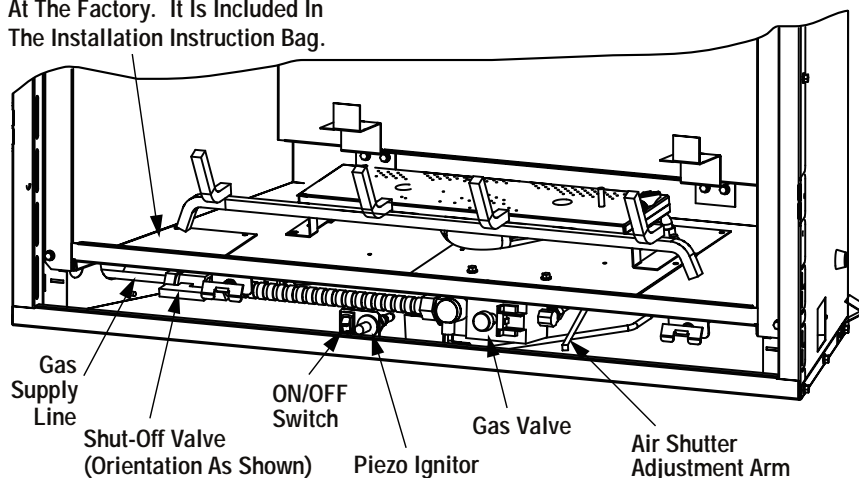
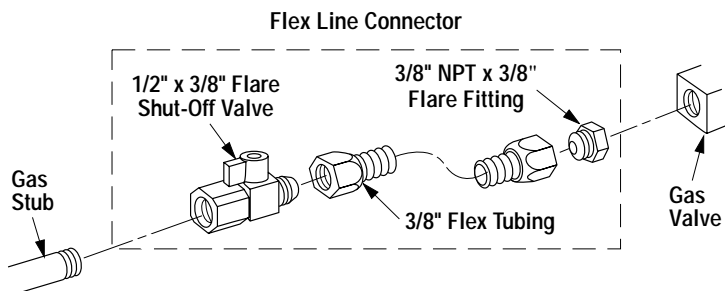

Figure 39
Figure 38 - GAS CONNECTION
All codes require a shut-off valve mounted in the supply line. The orientation of the shut-off valve should face the front, as shown in *Figure 39*. *Figure 38* illustrates the method for connecting the gas supply.
The gas flex line can only be used where local codes permit. See *Figure 38* for flex line description. The flex line is rated for both natural and propane gas. A manual shut off valve is also provided with the flex line.
If required, access the valve by removing the lower control compartment panel (see *Figure 39*) by lifting and pulling the panel forward. The millivolt and electronic control valve has a 3/8" (10 mm) NPT thread inlet port.
Remove the gas line access plate and gasket from the provided plastic bag and install them over the opening, using the provided screws (4) as shown in *Figure 39*.
With gas line installed run initial system check-out before closing up the front of the unit. Follow the pilot lighting instructions provided in the Homeowner's Care and Operation Instructions. For piezo ignitor location see *Figure 39 on page 23* (millivolt appliances only).
Note: Lighting Instructions are also found on the literature tag tied to the gas piping next to the gas valve. To access the tag, open the lower control compartment door (Figure 39 on page 23) by pulling the panel forward.
Observe the flame continuously. If it appears weak or sooty as previously described, adjust the air shutter by rotating the adjustment arm up or down (refer to *Figure 39*) until the flame appearance is as desired.